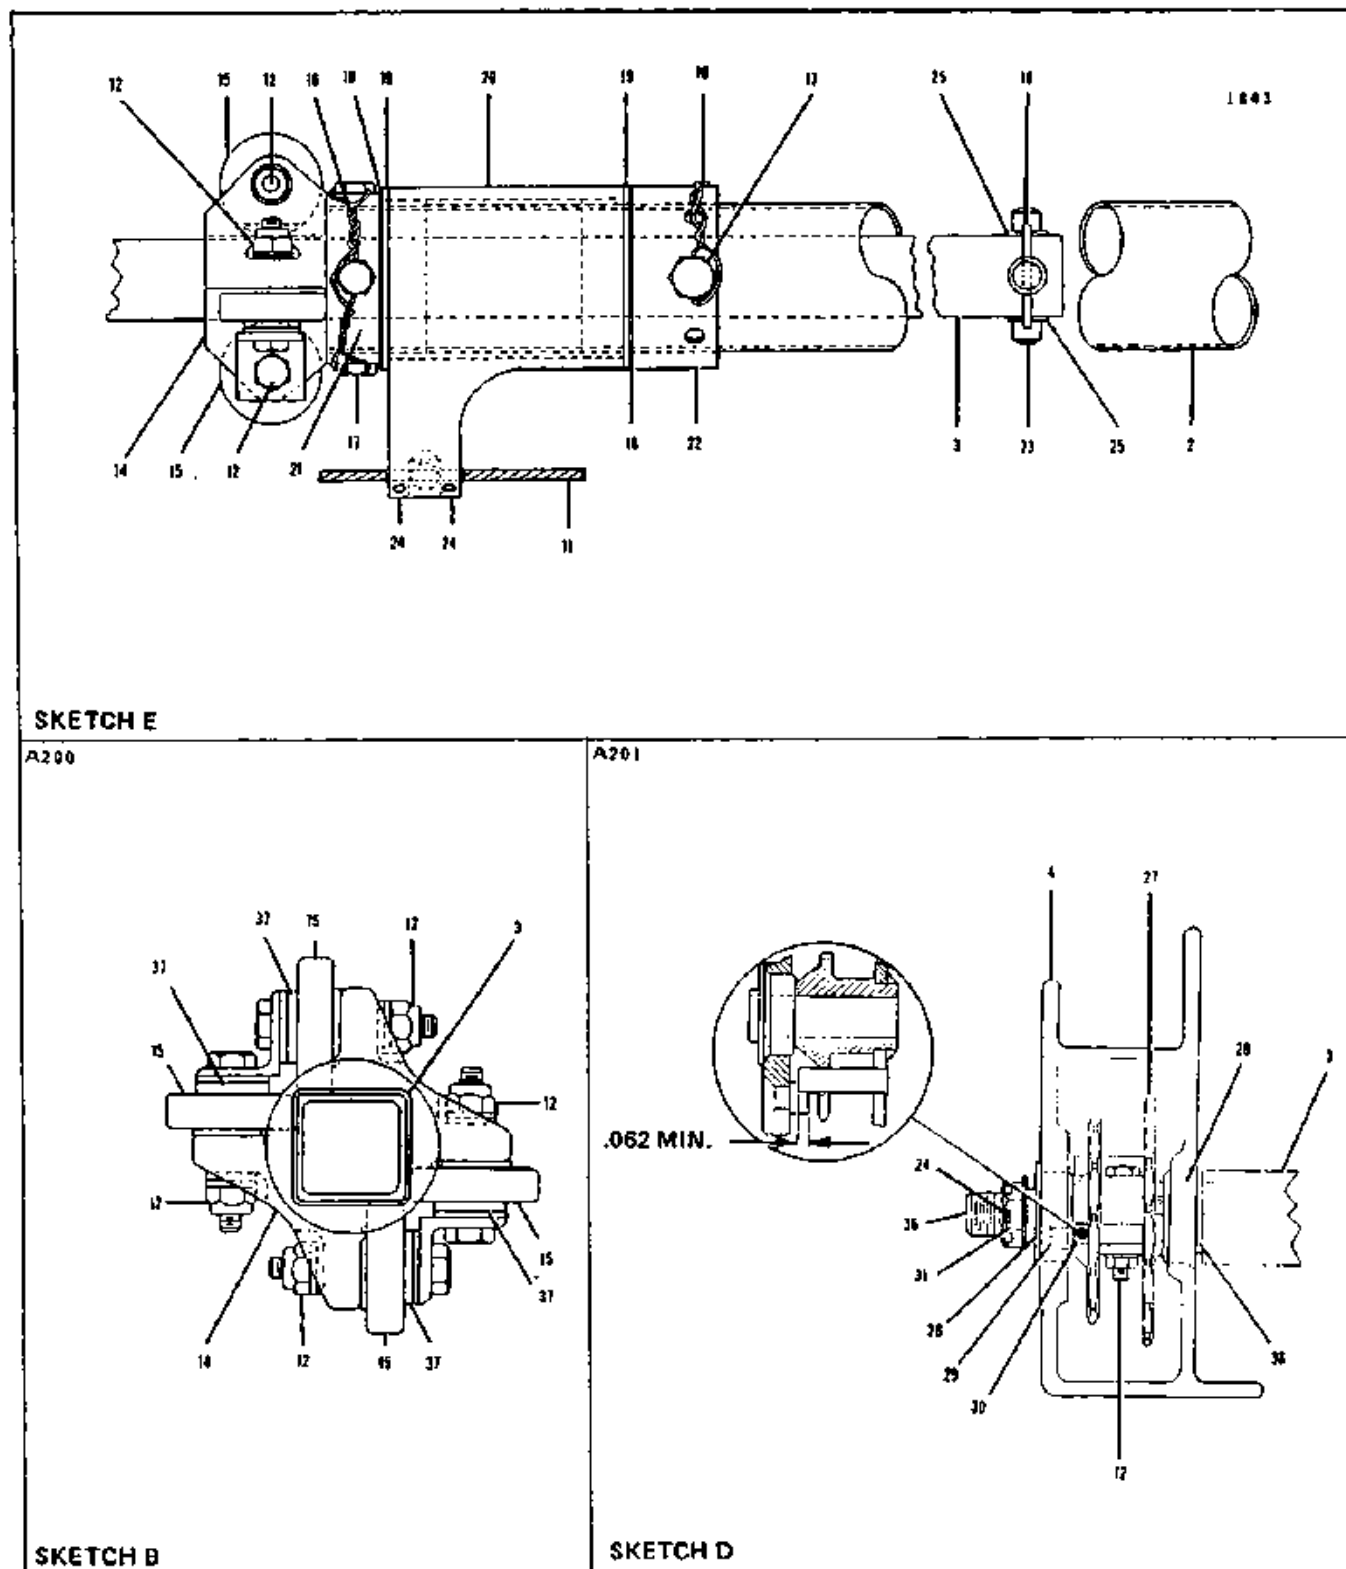

Figure 5-1. Control Column Installation (cont.)
#### 5-5. REMOVAL OF CONTROL COLUMN ASSEMBLY. (Refer to Figure 5-1.)
1. Cut the safety wire (16) holding the nylon rub blocks (23) used as guides and remove the blocks. Nylon blocks are secured by attaching screws.
**5-6. INSTALLATION OF CONTROL COLUMN ASSEMBLY. (Refer to Figure 5-1.)**
a. When installing the control column assembly, first install the components of the square tube assembly. If the nylon rub blocks (23) have been removed, install and tighten them on their attaching screws and secure in place with safety wire. Washers (25), Part No. 81342-78 may be installed as required under the nylon rub blocks (23) to remove play between the square tube (3) and control tube (2) without restricting control tube movement over square tube.
b. If both the sprocket assembly and roller assembly have been removed, the roller assembly may be replaced over the forward end of the square tube shaft. Adjust with spacer washers and rotate the eccentric bushing (37) to maintain 0.003 of an inch clearance between one roller (15) and the tube (3) with the opposite roller in contact with the tube. Adjust clearance of the other set of rollers.
c. To avoid unnecessary disassembly of control tube when checking end play of the collars (21 and 22) and cable attachment fitting (20), pre-assemble to obtain clearances required between the cable attachment fitting and the fore and aft collars. Pre-assemble as follows:
1. Slide the aft collar (22), cable attachment fitting (20), forward collar (21), and roller assembly onto the control tube (2).
2. Temporarily insert forward collar and roller assembly attaching bolts (17).
4. Install bolts (17) in aft collar.
5. Check clearances between either collar and cable attachment fitting. Note the required seal washers (18) that will be equal on each side of the cable attachment fitting to maintain a clearance of 0.003 to 0.013 of an inch.